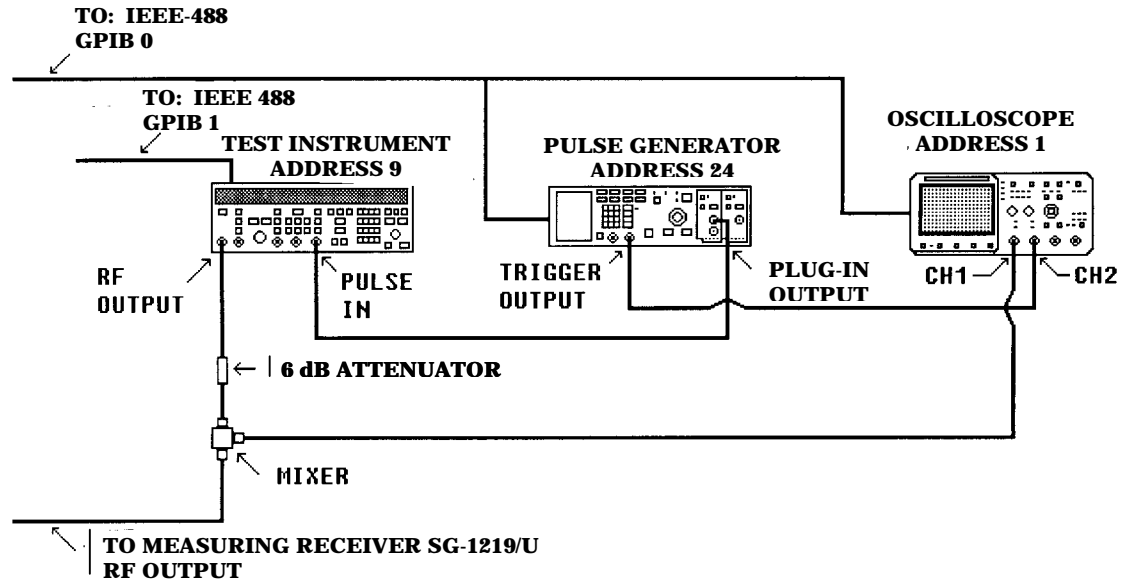

Figure 9. Pulse modulation hookup.
- (1) Disconnect cable from local oscillator **RF OUTPUT** connector.
- (2) Connect equipment as shown in figure 9.